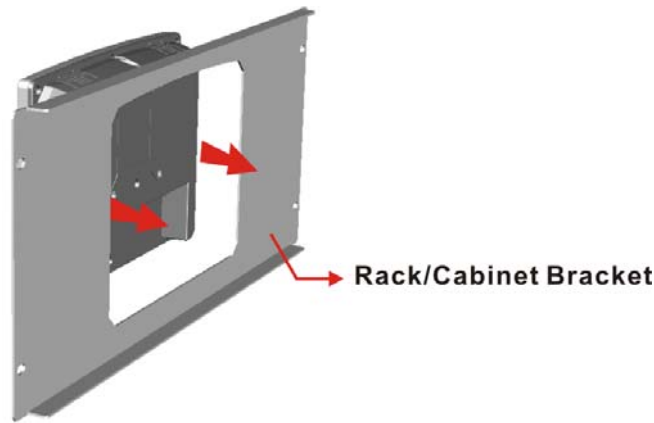

Figure 3-15: Rack/Cabinet Bracket Installation
- Step 1:** Slide the rear chassis of the AFL3-W07A-BT-N1 flat bezel panel PC through the rack/cabinet bracket until the frame is flush against the front of the bracket (Figure 3-15).